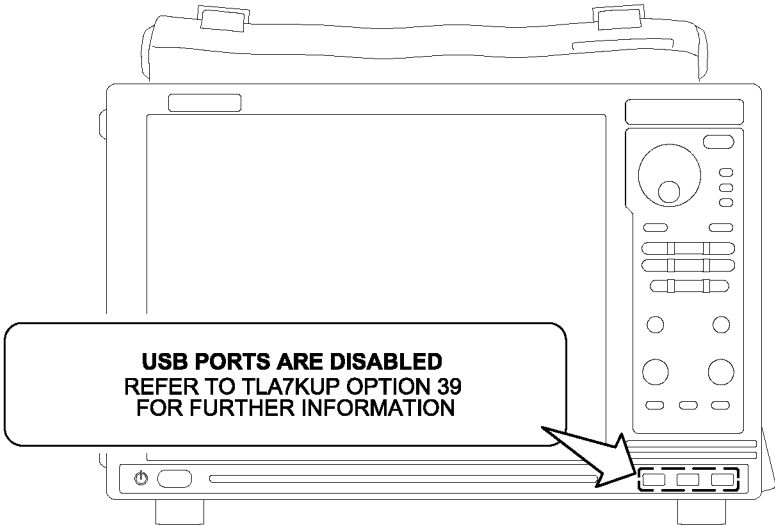

Figure 57: Attach the notification label over the front-panel USB connectors
3. Attach another USB PORTS ARE DISABLED notification label on the front of the instrument, over the USB connectors. (See Figure 57.)